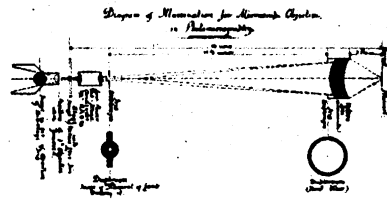

FIG. 7
5. *Centre and Finally Adjust Collecting Lens.* Close the iris of the collecting lens, and, by means of the sub-stage focussing adjustment, focus the little opening sharply on the field; then centre it, if necessary, by moving the collecting lens from side to side, and by raising or lowering it, as may be required. The iris of the collecting lens may then be opened up. (If the field is not now uniformly and fully illuminated to the very edge, or is fringed with red, the lamp and collecting lens must be brought nearer to the microscope until the field is fully covered with pure white light.) For diagram of above arrangement of light, see Fig. 7.